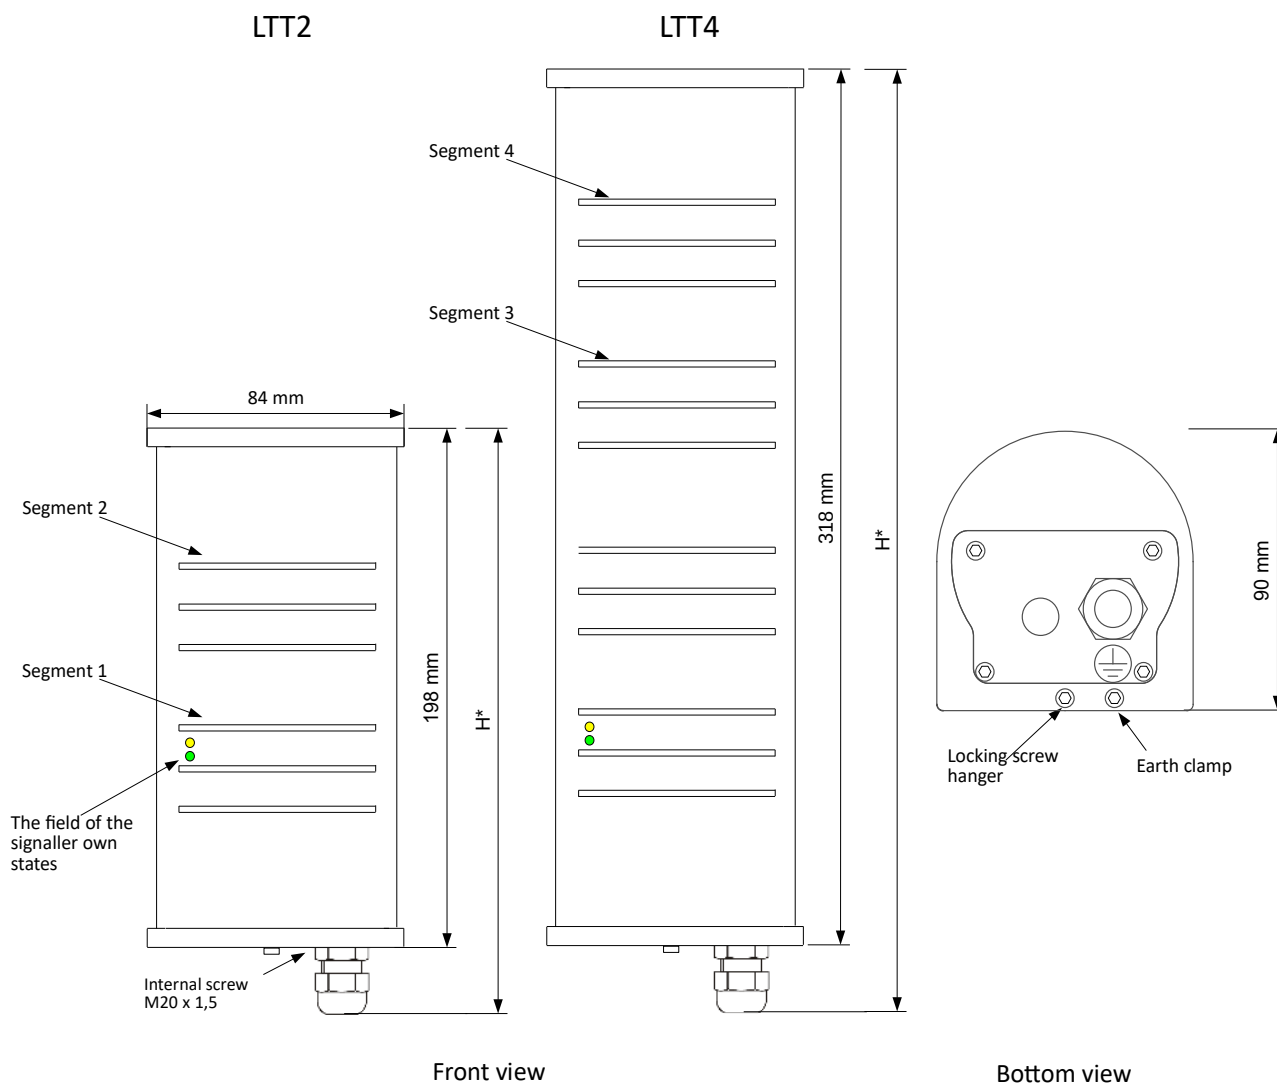

Figure 2: Layout of device components and its dimensions
Section 1 of the signaller comprises two pilot LEDs that indicate status of the device (see Figure 2). Operation of these LEDs for PW-091-S-X / PW-089-S-X and PW-091-M-X / PW-089-M-X units is described in the table below. For the PW-091-C-X / PW-089-C-X unit these LEDs are inactive.
The device must be mounted on a flat and vertical wall with the cable inlet looking downwards as shown in Figure 2 and then fixed by means of two bolts /screws ①. Any other position of installation is not allowed.